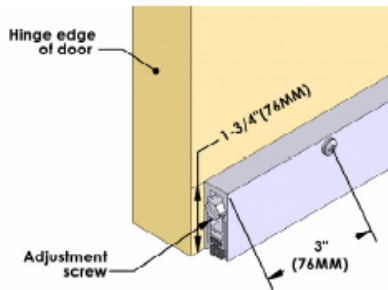

Fig. 1
3. Position the unit flush with the bottom edge of the door and the end with the adjustment screw flush against the frame stop on the hinge edge of the door. Mark, drill pilot holes and install mounting screws. (See fig. 1)